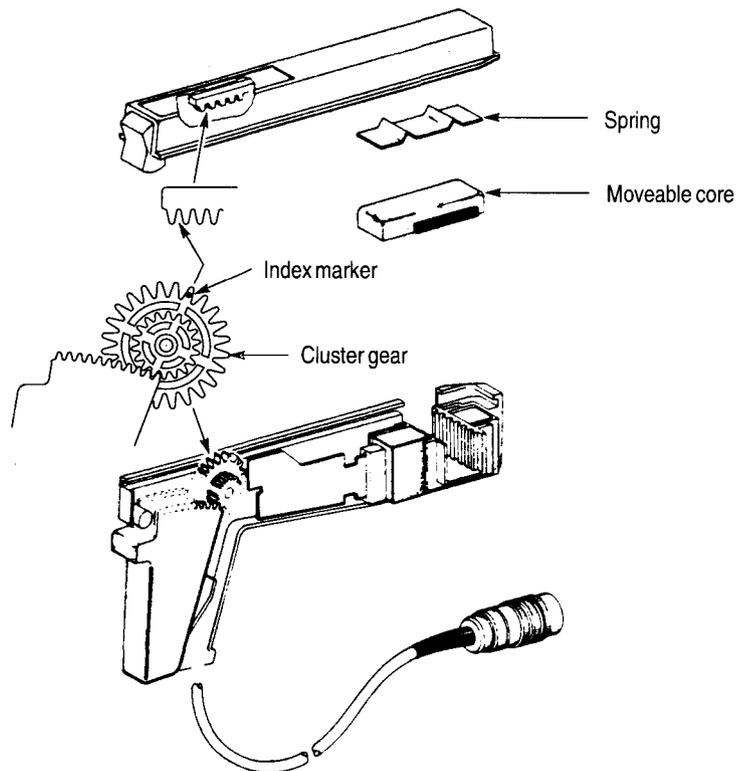

Figure 3: Probe cluster gear and transformer assembly
9. Reassemble the probe. Squeeze the handle slightly to align the index mark on the gear teeth with the first notch on the slide rack. See Figure 3.